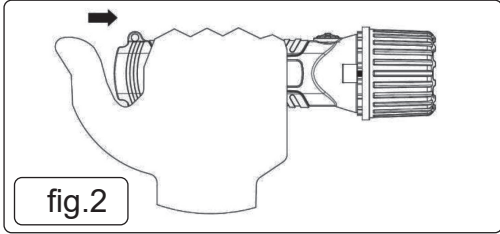

fig.2
- 4.2. TORCH (fig.2)**
- 4.2.1. The lamp ON/OFF/MODE button is located on the rear of the lamp (fig.2). The operation sequence is: one press provides 100% light, two presses provides approx. 25% light, third press will turn torch off.